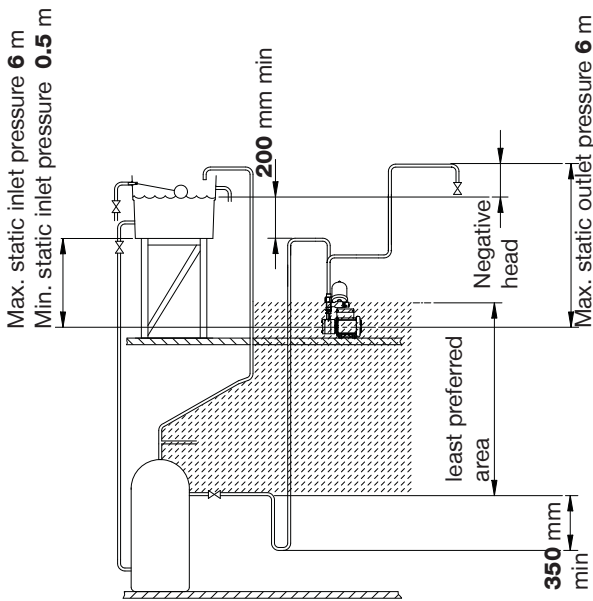

Fig. 3 - Single Pump
The use of a Stuart Side Entry (SE) cylinder flange, which should have the addition of an inverted loop (“U” bend) of 350 mm minimum drop before rising to the pump, located as close as possible to the cylinder wall. This will ensure the pump receives an air free supply and the cylinder vents any air up the vent pipe and not the pump feed (Figs. 3 & 4).